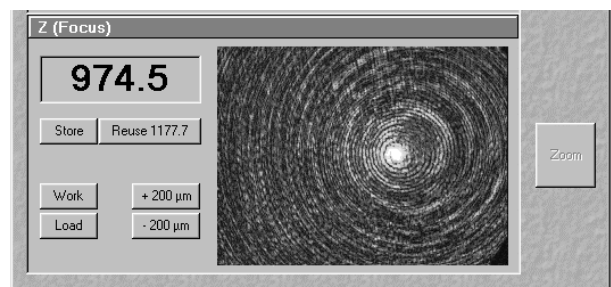

Fig. 3-16 Camera image near the lower cover slip surface
- If the focus position approaches the lower cover slip surface, the camera window looks similar to (Fig. 3-16).